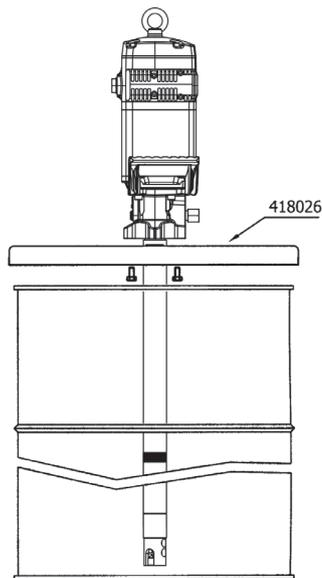

Fig. 2
- a. Mounting with reinforced cover (418026 for 185 kg drum and 418025 for 50 kg drum). Insert the pump through the cover and fasten it with the enclosed screws. Insert the pump through the bung opening and fasten the cover onto the drum firmly (see figure 2).
Fixer fermement le couvercle sur le fût (fig. 2)